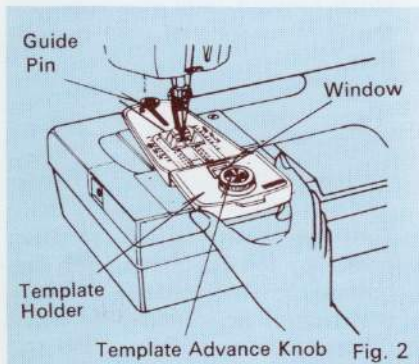

Fig. 2
2. Screw guide pin into the guide pin hole on the base directly behind the needle plate. Pull guide plate forward as in Fig. 2.